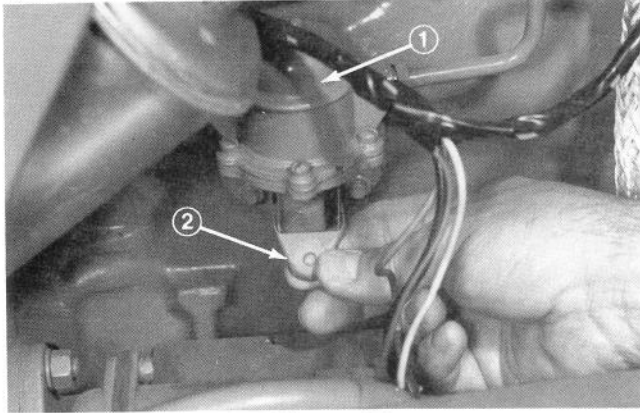

Figure 68
7. Operate the priming lever on the fuel lift pump until pure fuel, free from bubbles, comes out around the vent screw (Fig. 68). Tighten the vent screw.
Note: If the priming lever cannot be moved fully, it means that the camshaft lobe is up. The engine must be turned over one revolution so the lobe is down, and the pump can be operated (Fig. 68).
FUEL LIFT PUMP (Diesel) (Fig. 68)
The lift pump is camshaft-operated to pump fuel from the tank to the filter and the injection pump. It is also used to manually prime the filter and pump after running out of fuel, changing the filter element, or any time the fuel lines are disturbed. Pump the lever up and down to operate the pump (Fig. 68). If the lever cannot be moved fully, apparently the camshaft lobe is up, and the engine must be turned over one complete revolution to get the cam lobe down so the lever can be operated.